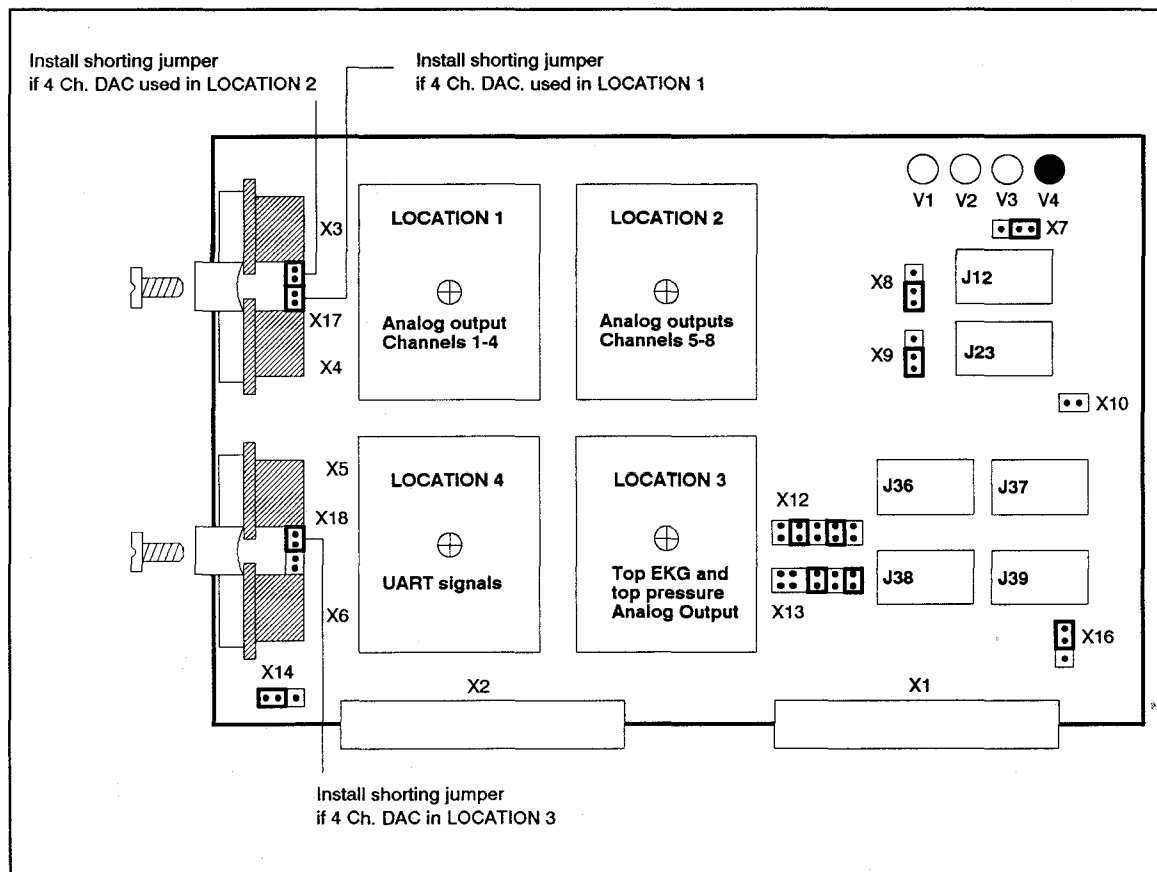

Figure 4-6. Master Option Board Configuration
Refer to Figure 4-6.
Refer to Figure 4-6 for locations of specific sub-option boards.
4. Install activation jumper as noted in Figure 4-6.